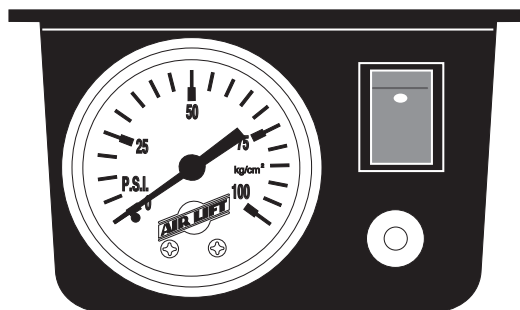

fig. 6
9. Turn on ignition switch. Push on/off switch and observe pressure increase on the air gauge (Fig. 6). Inflate to maximum recommended pressure. Inspect each connection with a soap and water solution. If a leak is found in the fittings, reduce air pressure to zero and tighten threaded connections or remove air line, cut off one inch and reattach.
5. To deflate the air springs, depress the button below the on/off switch (Figure 6).